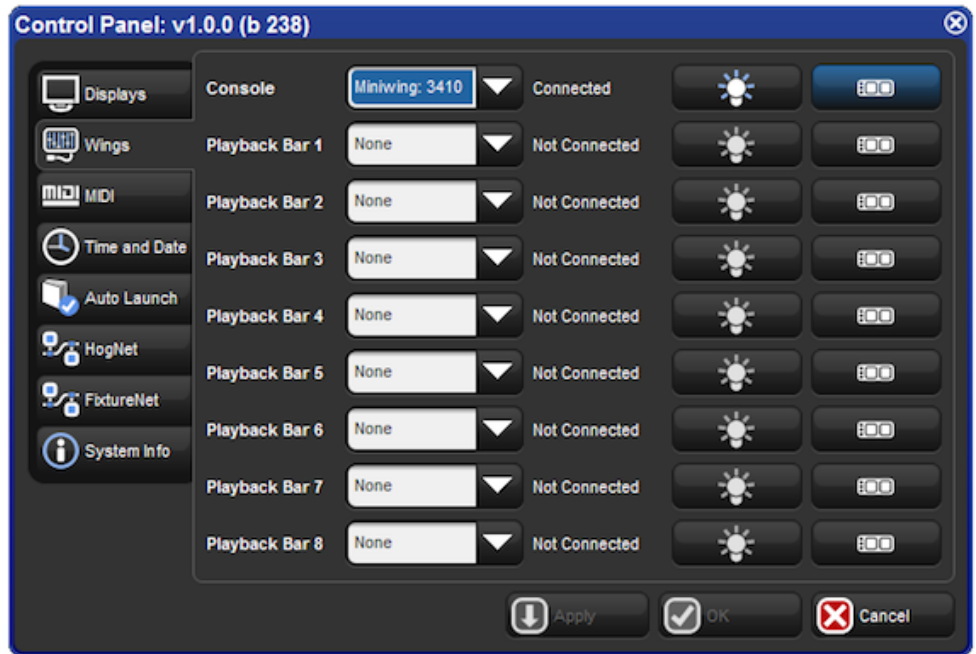

Figure 3.13. The Wings pane of the Control Panel with Playback Wing Mapping
2. Setup → Control Panel → Wings : open the Wings pane of the Control Panel window (see Figure 3.13, *"The Wings pane of the Control Panel with Playback Wing Mapping"*).